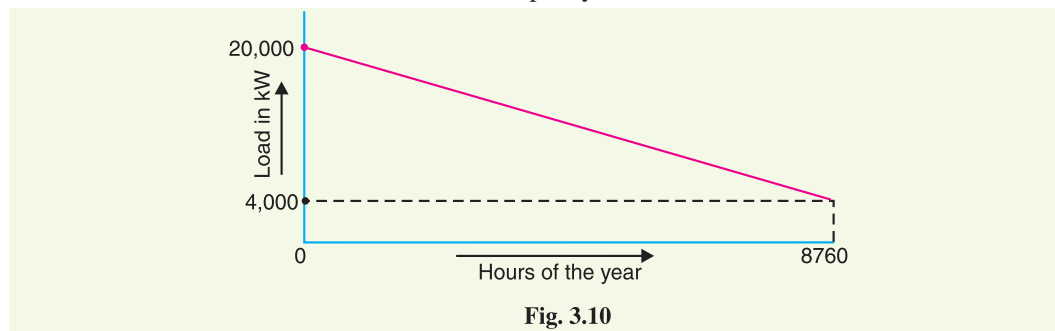

Fig. 3.10
**Solution.** Fig. 3.10 shows the annual load duration curve of the power station.